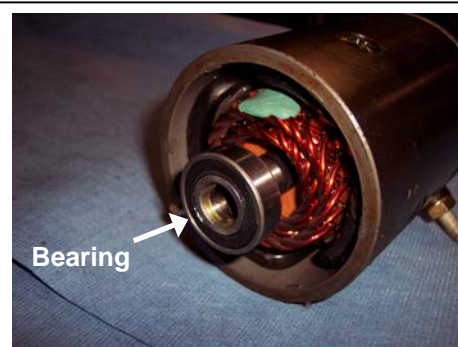

Figure 4 Bearing on shaft
- 3) Your motor may come off with or without the bearing still on the armature shaft **(See Figure 4)**, or it may be stuck in the port plate. If the motor is replaced, use the new bearing that comes with it. If the motor works properly and is not badly rusted, simply reassemble.